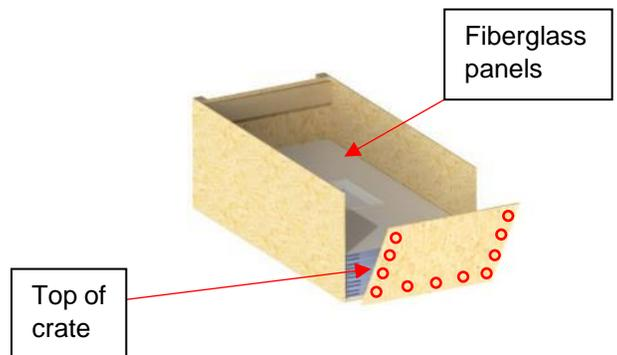

Figure 43
18) Unscrew the 11 Robertson #8-10 x 1.5" screws (four on each side and three at the bottom) holding the top of the crate. Then, remove the top of the crate (Figure 43).